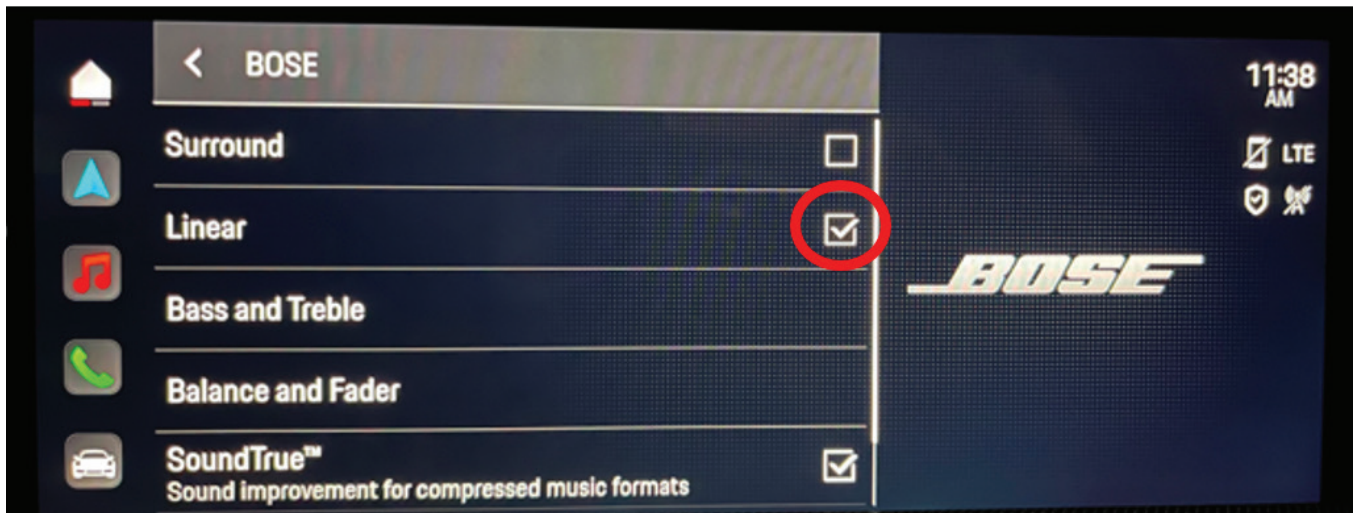

Figure 1 - BOSE settings
3. In sound system settings, check off "**Linear**" (Reference Figure 1).